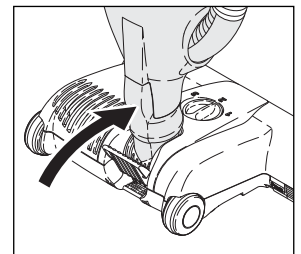
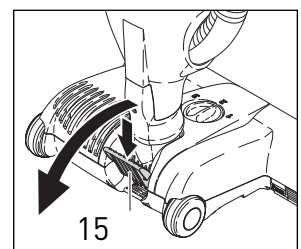

Figure 6
Figure 7
Before turning on your vacuum cleaner, make sure that the vacuum is in its upright locked position (figure 6) and that you have a firm hold on the handle grip to keep the machine from moving forward.
Operating with the Power Head - Figures 6, 7, & 11
A. When the power head is switched on with the power head neck (figure 6) in the upright locked position, the brush roller will not spin and the on/off light will illuminate in yellow. To release the power head from the upright locked position, press down on the foot pedal (15, figure 7) and lower the power head neck into the normal operating position. The brush roller will then start spinning and the on/off light on the power head will illuminate in green. The handle can be lowered to a horizontal position useful for vacuuming under beds.
By pushing the foot pedal (figure 7) and lowering the handle, you activate the power head and the brush begins spinning. Failure to use the foot pedal will cause lasting damage to the machine. The electronic brush control constantly monitors the status of the brush, communicating the status through the lights on top.